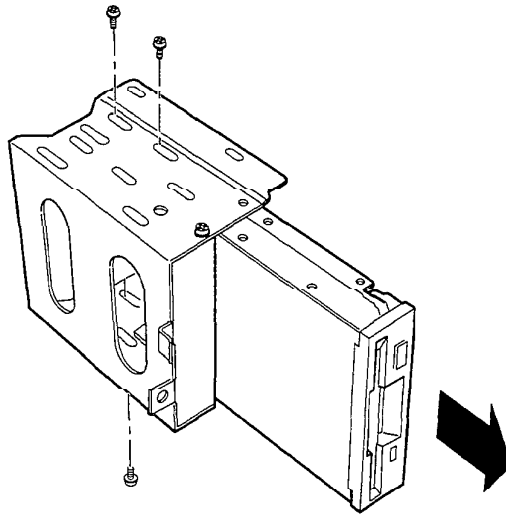

Figure 2 Remove the Floppy Disk Drive
11. Remove the floppy disk drive from the carrier. See Figure 2 for details.